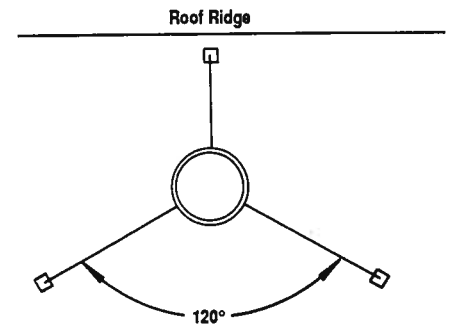

Figure 23
Note: If chimney extends more than 8' above roof surface, guy wires are also recommended. Use three (3) guy wires, attach to locking band assembly, extend and secure to roof in a triangular pattern (Figure 23). Guy wires are not supplied by Superior.